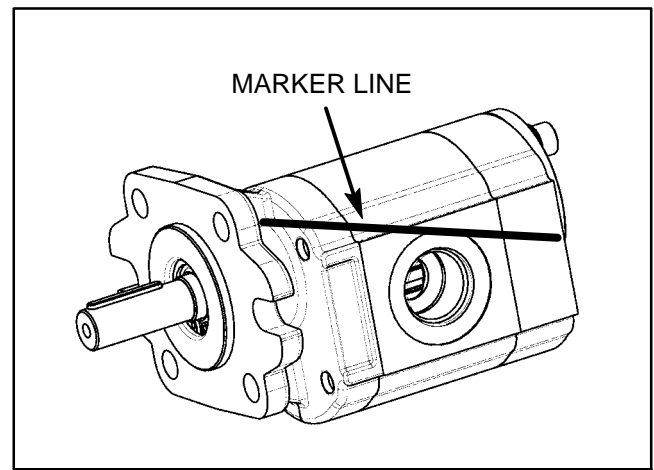

Figure 29
2. Use a marker to make a **diagonal** line across the front thrust plate, body and rear flange for assembly purposes (Fig. 29).
NOTE: When assembling the pump, check the marker line on each part to make sure the pump components are properly aligned during assembly (Fig. 29).